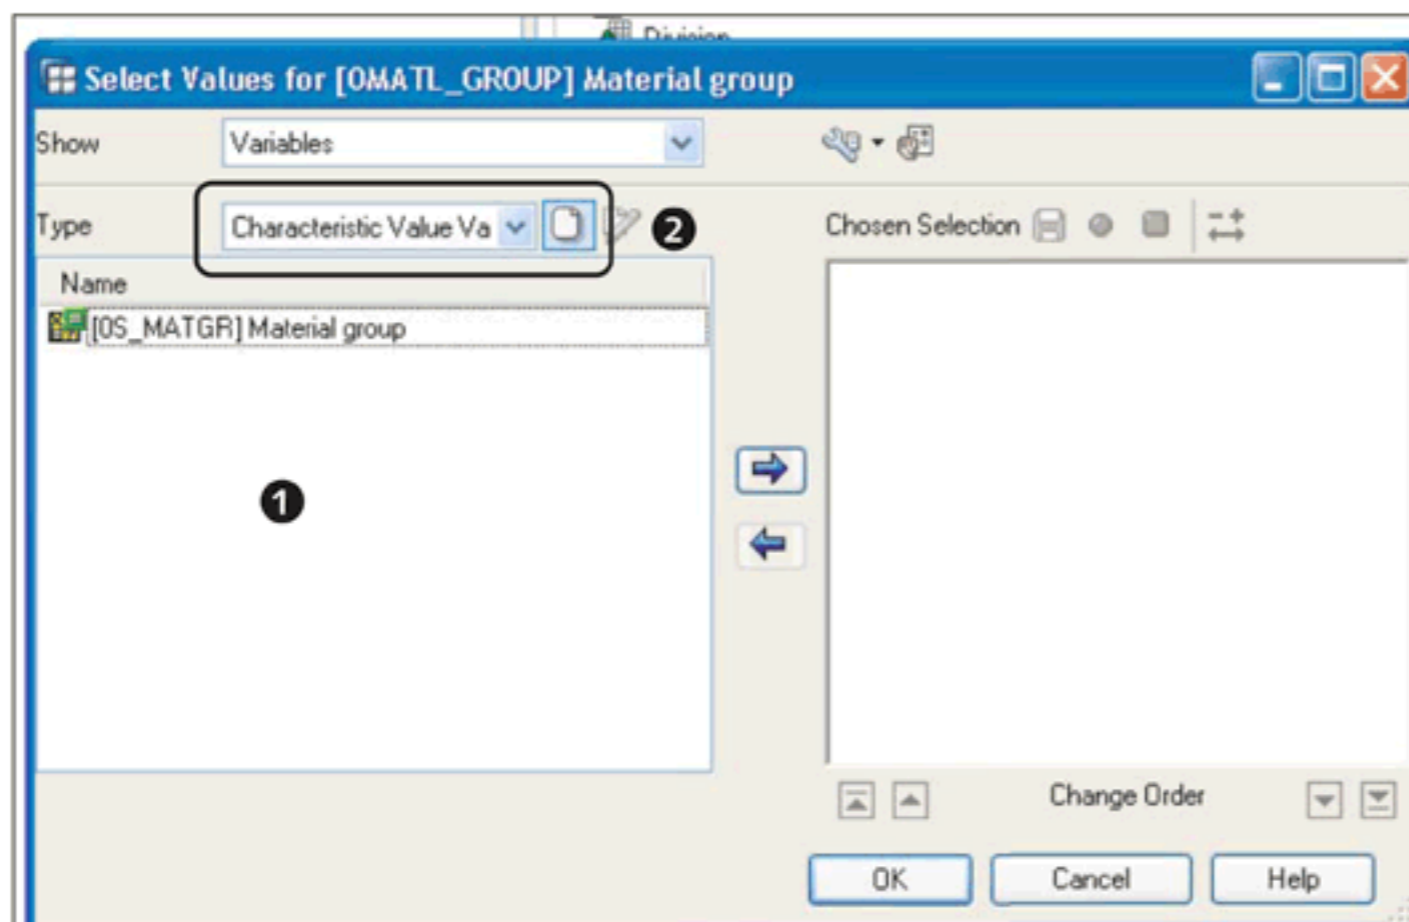
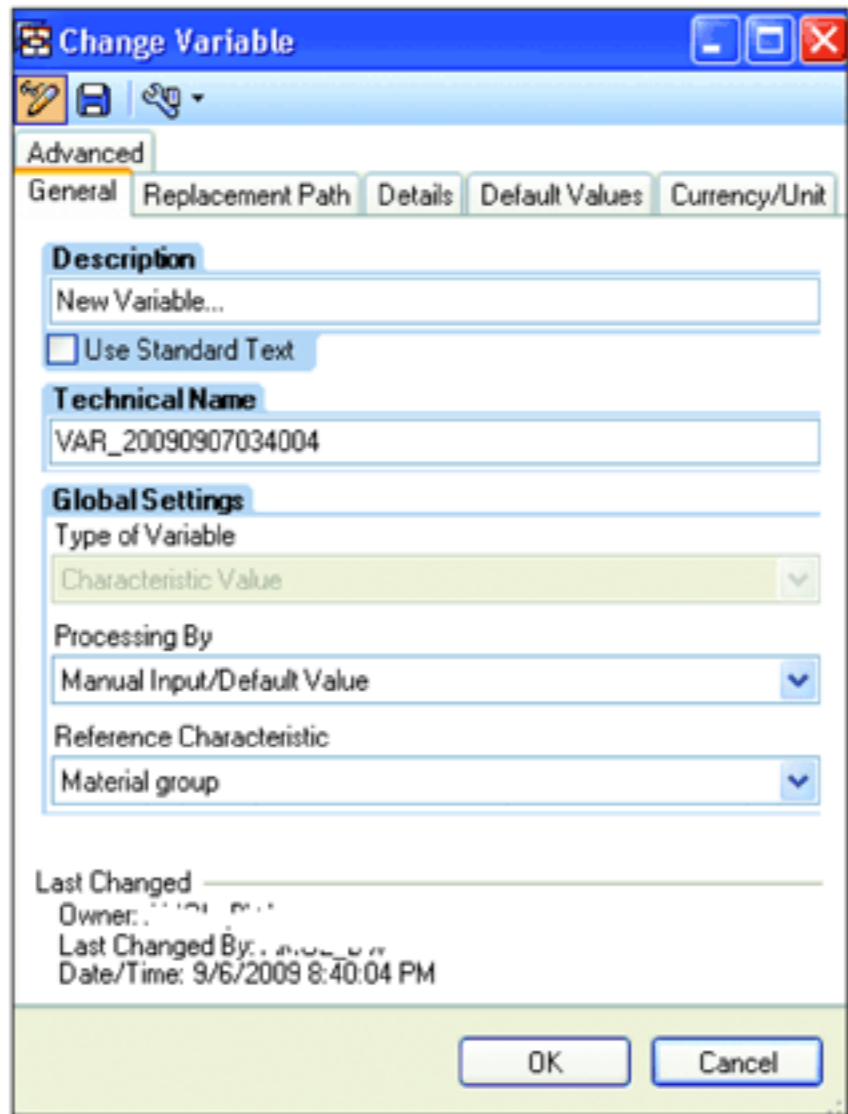

Figure 9.24 Create a New Characteristic Variable
Figure 9.25 Variable Editor Screen
For our example scenario, let's create a variable based on the material group characteristic. After you select VARIABLES from the dropdown, the list is refreshed to the variable values available for the selected characteristic (❶ of Figure 9.24).
To create a new characteristic variable, select the characteristic value variable from the TYPE dropdown, and then click on the CREATE icon (2 of Figure 9.24). This action takes you to the VARIABLE EDITOR screen (see Figure 9.25).